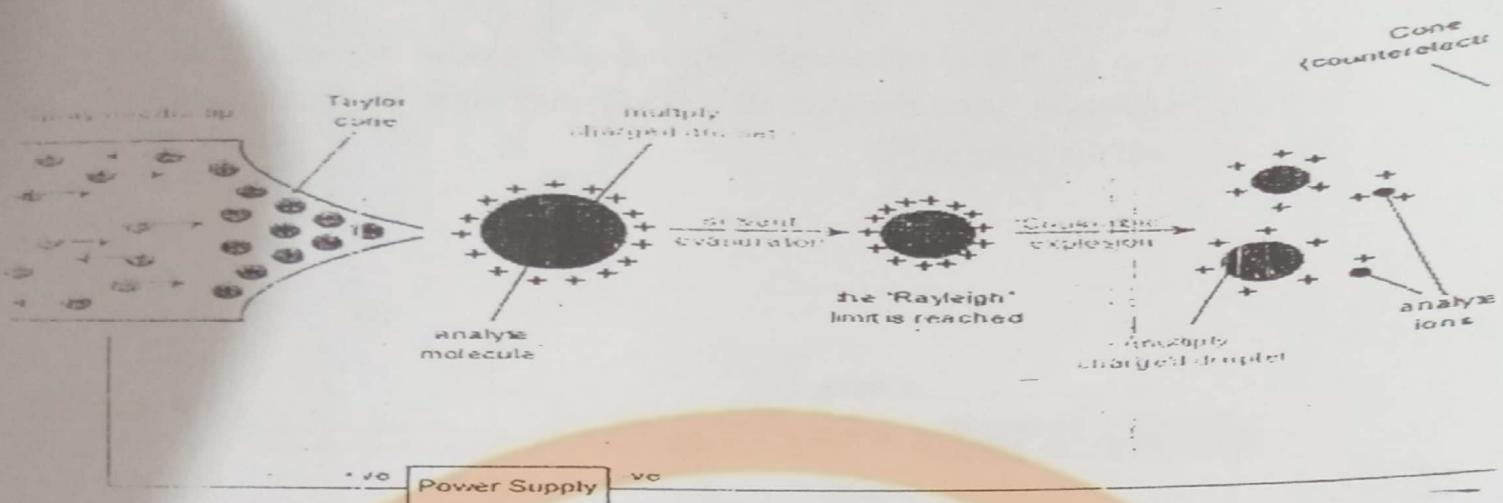

Figure 2 A schematic of the mechanism of ion formation
- As the droplets traverse the space between the needle tip and the cone, solvent evaporation occurs. This is circled on the Fig.1 and enlarged upon in Fig.2. As the solvent evaporation occurs, the droplet shrinks until it reaches the point that the surface tension can no longer sustain the charge (the Rayleigh limit) at which point